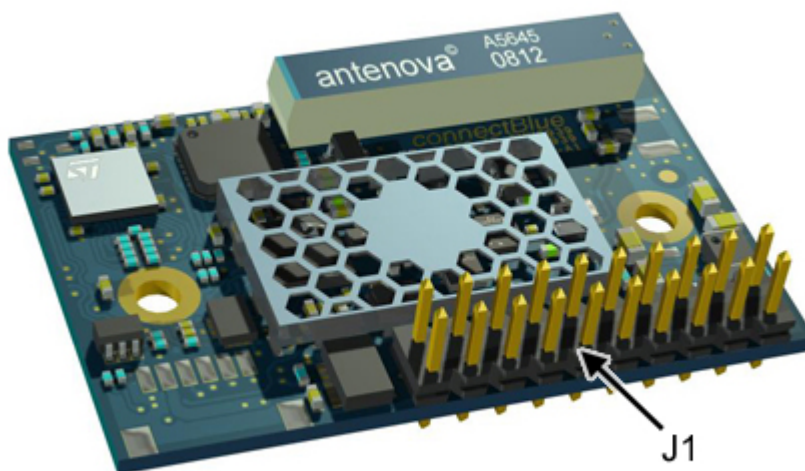

Figure 4: The 2x20 2mm pin header connector (J1) mounted on the module (cB-OBS433i-02).
- Optional: Via the 2x10-pin 2 mm pitch pin header connector, J1 (see Figure 4).